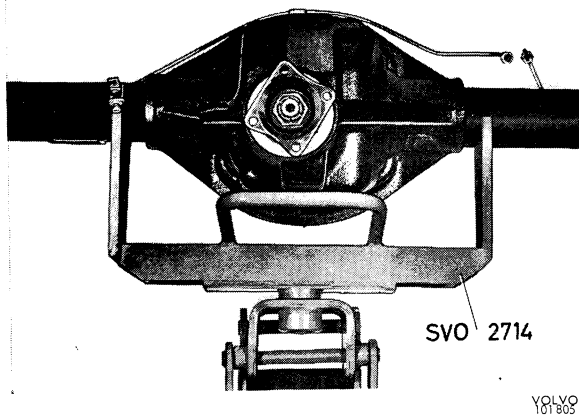

Fig. 4-162. Fixture for rear axle
1. Place the rear axle in fixture SVO 2714 on a jack, see Fig. 4-162. Move the rear axle under the vehicle and fit on the bolts for the torque and support stays.